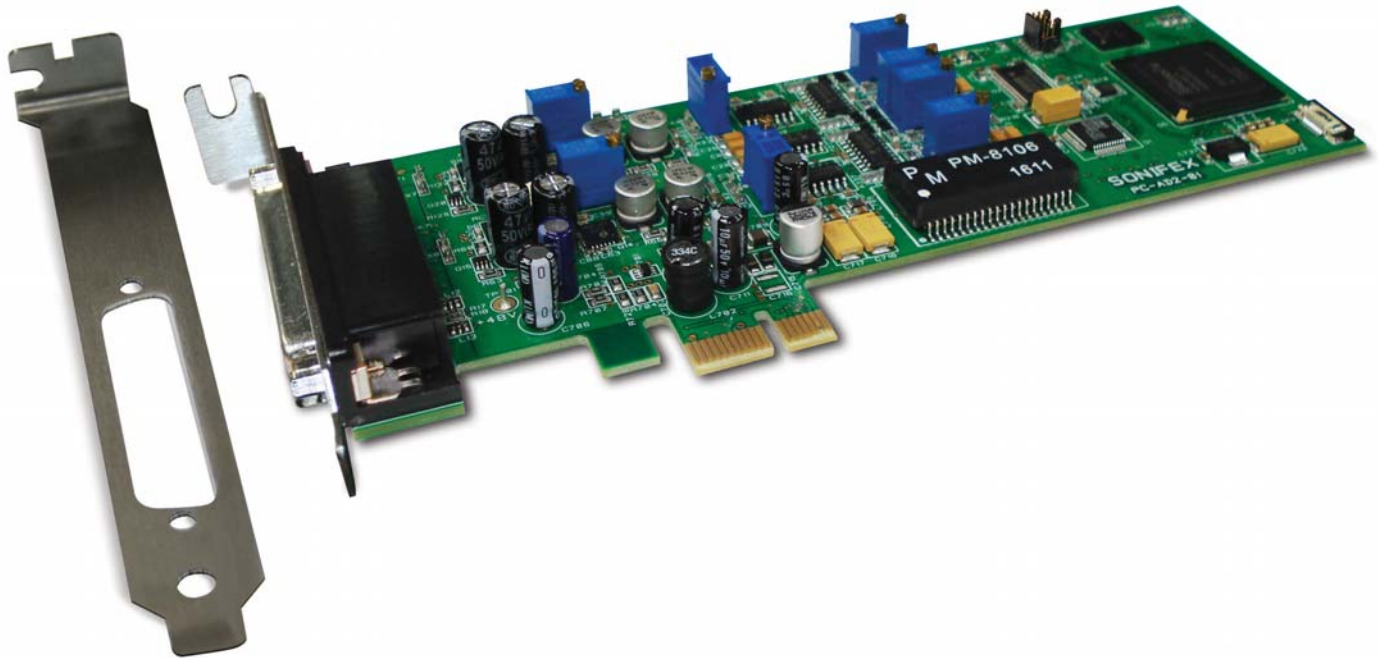

Fig 1-1: PC-AD2 With Small Bracket And Optional large Bracket
- Fig 1-1: PC-AD2 With Small Bracket And Optional large Bracket 1